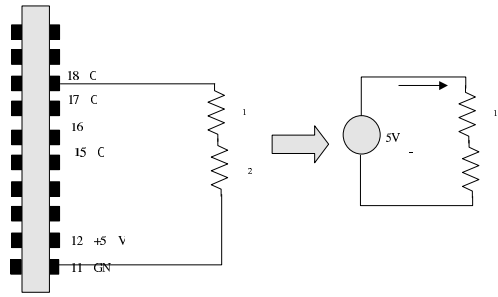

FIGURE 2. Voltage divider: a preliminary DAC design
If we wish to generate a voltage that lies somewhere between the low ground voltage level (zero) and the "high" voltage level (5), we need to find a way of "dividing" the voltage. A voltage divider is a circuit that does this. Figure 2 shows a simple voltage divider circuit. The voltage V_2 over the second resistor, R_2 will be some fraction of the total voltage over the total voltage generated by the source. Our problem is to determine how the voltage V_2 varies as a function of the two resistances R_1 and R_2 . From the course lectures, you should readily recognize that the voltage V_2 will be